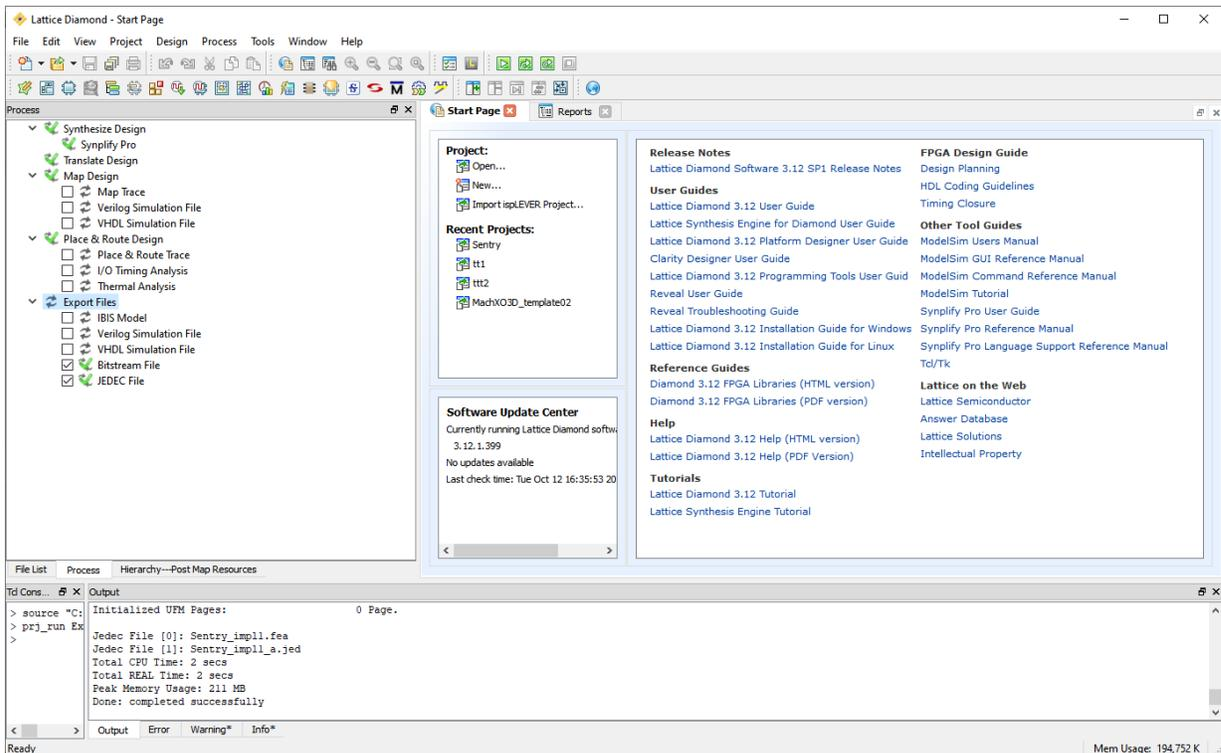

Figure 2.70. Generate Programming Files
- b. Switch to **Process** view of the Diamond project (Figure 2.70). Make sure at least one programming file (IBIS Model, Verilog Simulation File, VHDL Simulation File, Bitstream File, or JEDEC file) is selected in the **Export Files** section. Available programming files can be different upon specific device included.